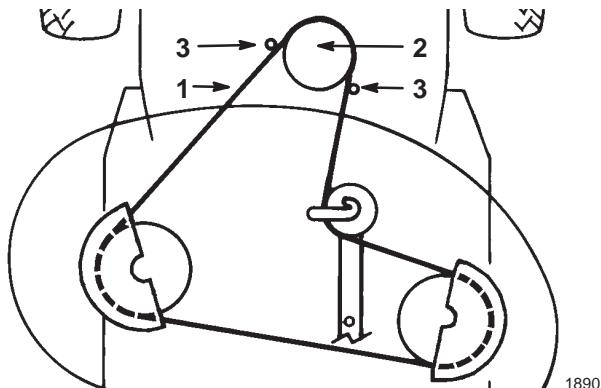

Figure 42
14. Remove the mower belt from the lower engine pulley (Fig. 42). If you are careful, you can flex the belt guide(s) just far enough away from the pulley to remove the belt. If it is too difficult to remove the belt, loosen the bolts and nuts securing the belt guides.
- Install the mower belt onto the lower engine pulley (Fig. 42). If you are careful, you can flex the belt guide(s) just far enough away from the pulley to install the belt. If it is too difficult to install the belt, loosen the bolts and nuts securing the belt guides.